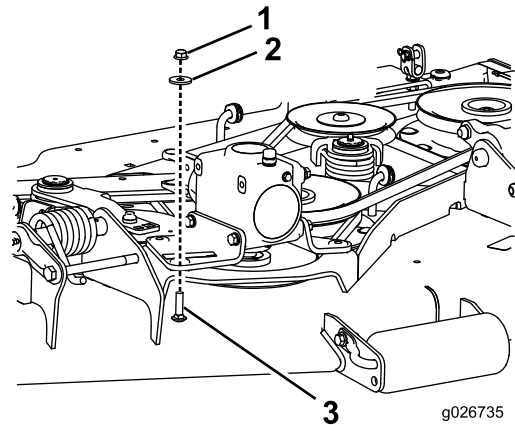

Figure 1
1. Remove the nuts and washers from the carriage bolts that secure the front of the gear box mounting brackets to the mower deck (Figure 1).